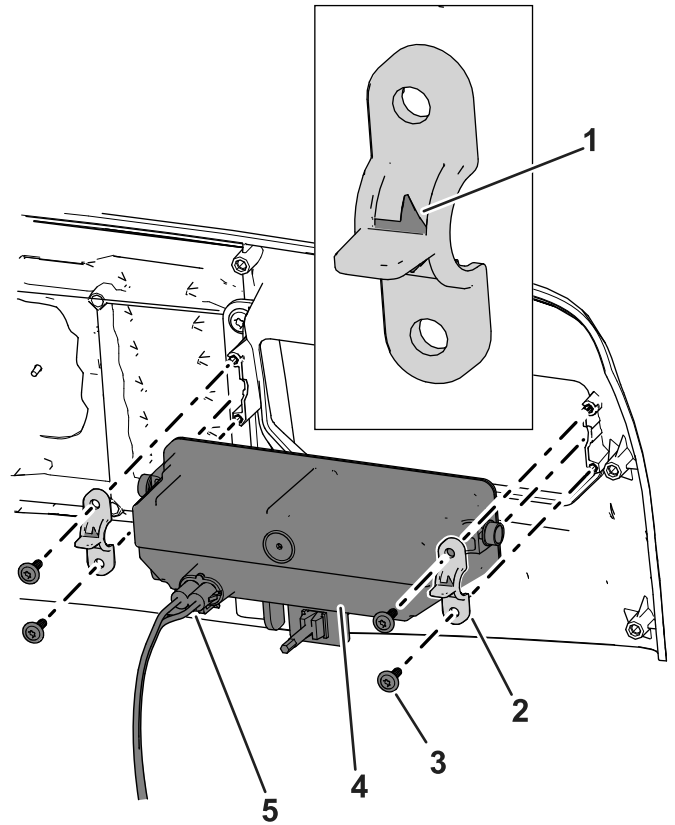

Figure 54
3. Disconnect the electrical connector for the harness from the connector of the headlight assembly (Figure 54).
4. Remove the plastic clips and headlight screws that secure the headlight to the machine, and remove the headlight assembly (Figure 54).
5. Install the new headlight in the machine using the retained plastic clips and headlight screws. Torque the headlight screws to 1.6 N·m (14 in-lb); refer to Figure 54.
Note: Ensure the directional arrows on the plastic clips point to the outside of the machine (Figure 54).
6. Connect the electrical connector for the harness to the connector of the headlight assembly (Figure 54).